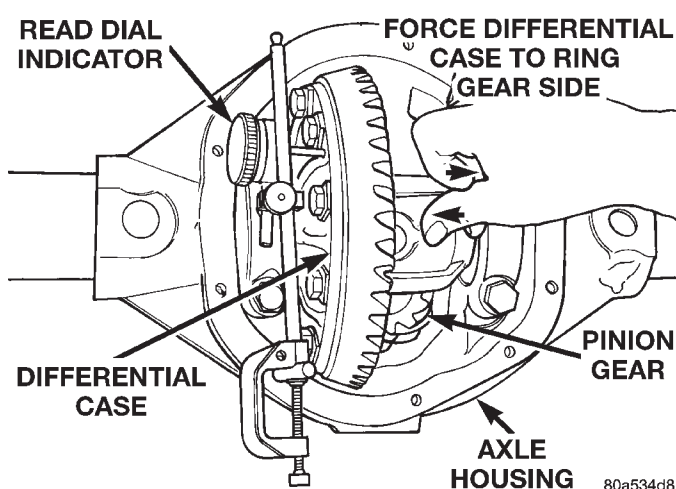

Fig. 75 Hold Differential Case and Read Dial Indicator
(23) Push and hold differential case to ring gear side of the axle housing (Fig. 75).
(24) Record dial indicator reading (Fig. 75).